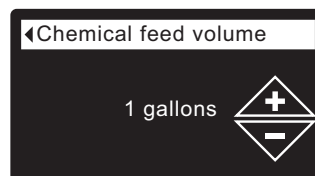

FIG. 91
7. Press the SELECT (O) button to display the Chemical feed volume or Chemical feed timer menu (See Figures 91 & 92).